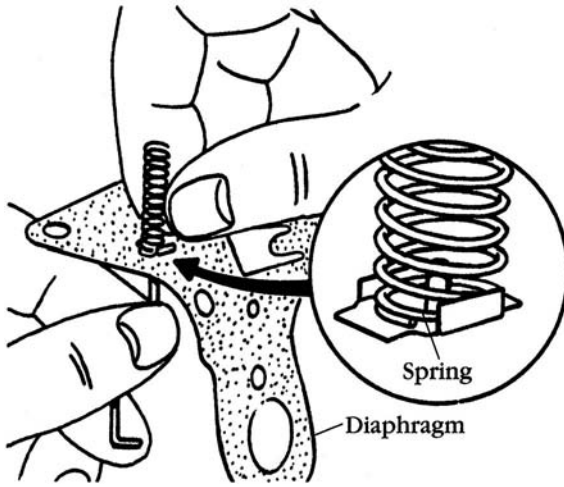

FIG. 4-7. Attach the choke link to the diaphragm as shown. Briggs & Stratton Corp.
1. If a new diaphragm is being installed, attach the spring as shown in Fig. 4-7.